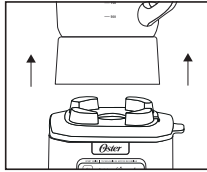

Fig. 20
1. Lift the jar straight up from the base, remove the lid and empty the jar. (Fig. 20)